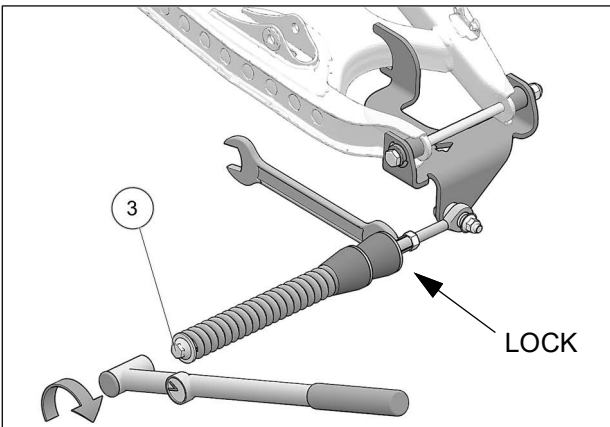

Fig. 11
11. Verify that spring assembly bolt (3) is tightened to the recommended torque specification: 75 Nm [55 lb•ft]. Make sure to lock in position, the large nut in front of the rubber cone dampers. Refer to Fig. 11